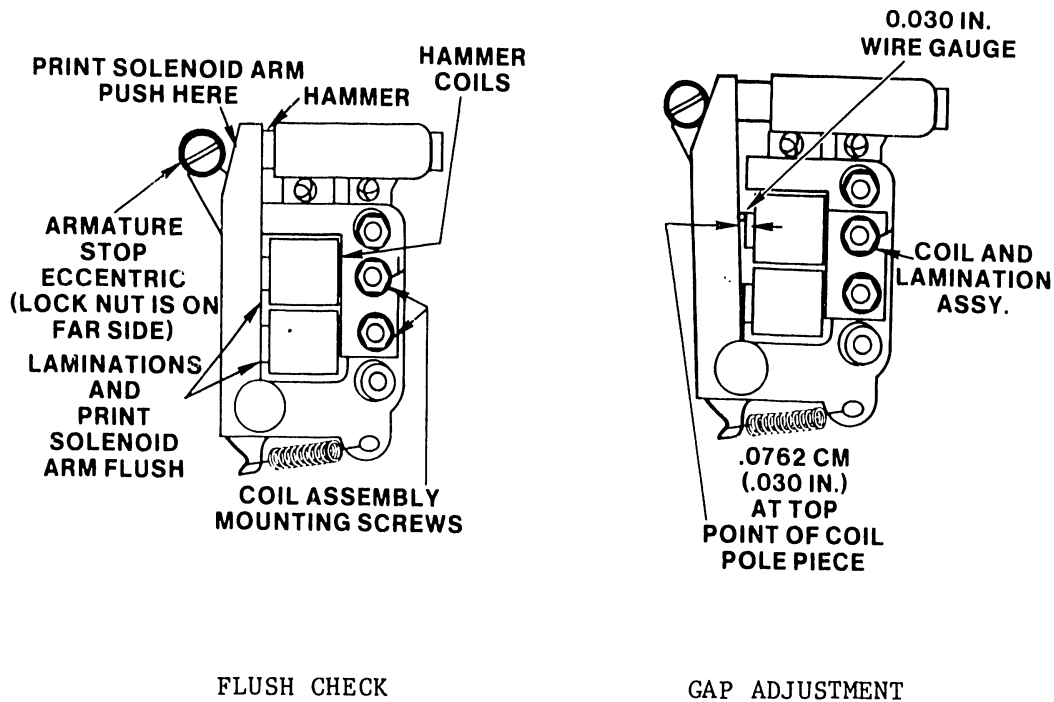

FIGURE 5-10 ARMATURE TO LAMINATION ADJUSTMENTS
5.9.1 CHECK (See Figure 5-10)
To check the alignment of the armature, remove the ribbon cartridge and print-wheel. Inspect the alignment of the hammer armature with respect to the face of the lamination. Check that both surfaces are flush as shown in Figure 5-10 by moving armature against lamination face.
5.9.2 ADJUSTMENT (See Figure 5-10)
5.10 ARMATURE TO LAMINATION GAP (See Figure 5-10)
Using wire gauge (WL #726-9726) check for 0.030 in. gap between hammer armature and coil lamination at top of lamination as shown in Figure 5-10.